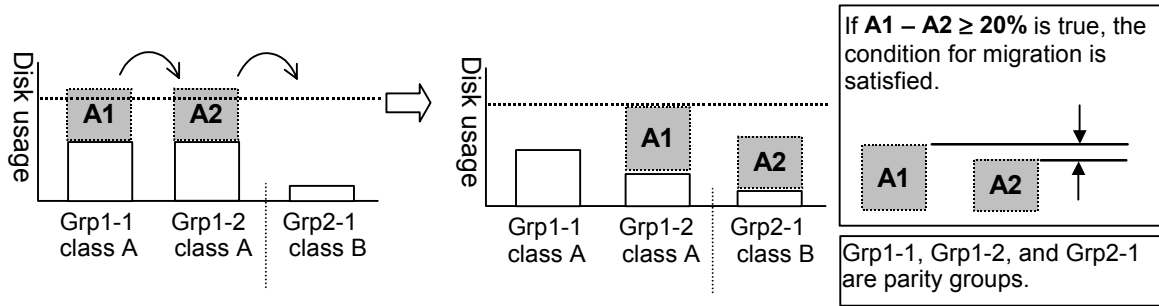

Figure 2.7 Migrating a Volume Automatically Within the Same HDD Class
The auto migration function can also move a volume from one parity group to another group of the same HDD class, forcing another volume out of the destination parity group. To be able to move one volume into a parity group of the same HDD class and force another volume out of that parity group, the auto migration function requires a minimum of twenty (20) percent difference in estimated disk usage between the two volumes (see Figure 2.7). If the difference in disk usage is less than 20%, this migration is considered ineffective, and the volume is not moved.